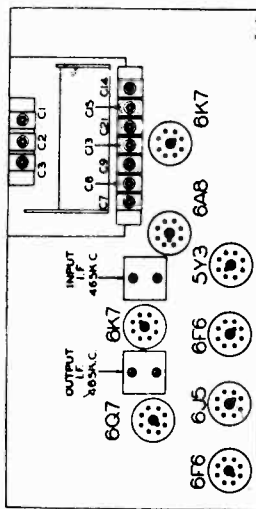

FIG. 3—VIEW SHOWING TRIMMERS
These I.F. transformers have two adjustments, both of which are accessible from the top of chassis (see Fig. 3).
1. With band changing switch in the short wave position, extreme right of its rotation, and with external oscillator set at 22 Megacycles and connected in series with "Dummy 3" to the tan antenna and black ground lead, make the following adjustments: (See Fig. 3).
1. With band changing switch in the middle wave position, center of its rotation, and with external oscillator set at 6 Megacycles connected in series with "Dummy 3" to the tan antenna and black ground lead, make the following adjustments: (See Fig. 3).